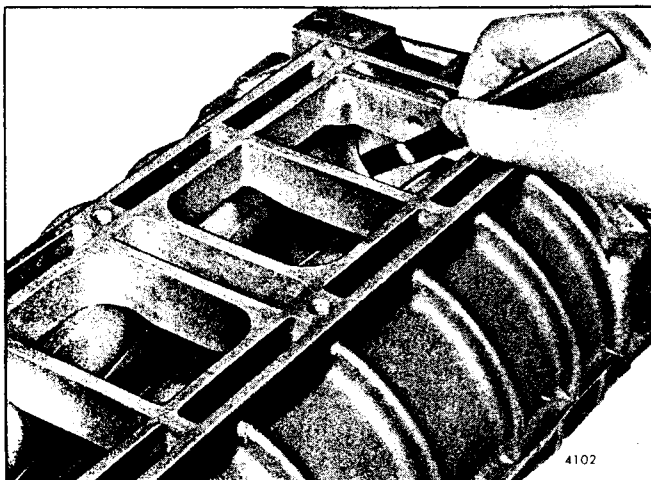

Fig. 21 - Measuring End Clearance Between Blower Rotors and End Plate
8. Determine the minimum clearances at points "A" and "B" shown in Fig. 19. Insert the feeler gages, as shown in Fig. 21, between the end plates and the ends of the rotors. This operation must be performed at the ends of each lobe, making 12 measurements in all. Refer to Fig. 19 for the minimum clearances.